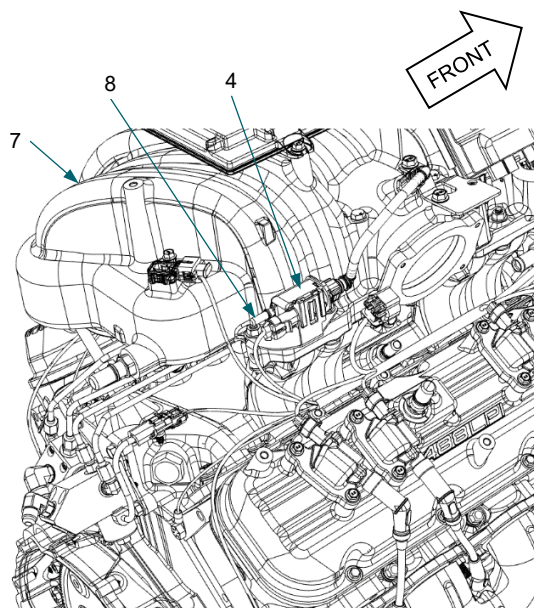

Figure 3: EVAP purge solenoid (4), fitting (8), intake manifold (7).
1. Remove engine to EVAP canister EVAP purge line (*not visible*) from EVAP purge solenoid (4) fitting (8) on intake manifold (7). *Figure 3*